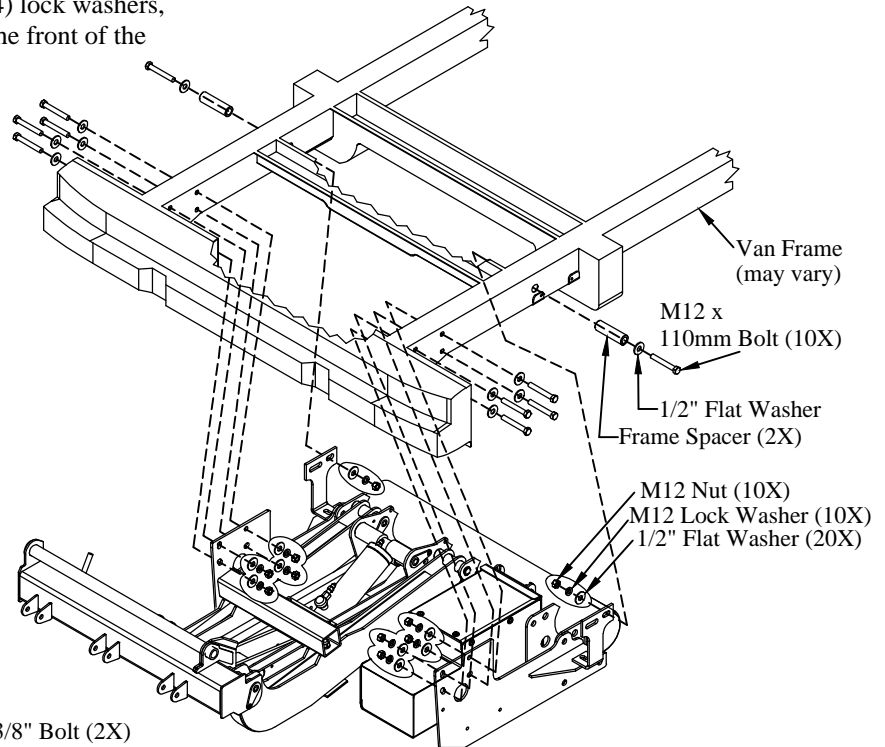

Figure 9: Main assembly position on frame.
- 4. Install** (1) frame spacer per side in the existing holes in the frame (Figure 9).
Do Not tighten at this time. The driver side nut may be added later (Figure 9).